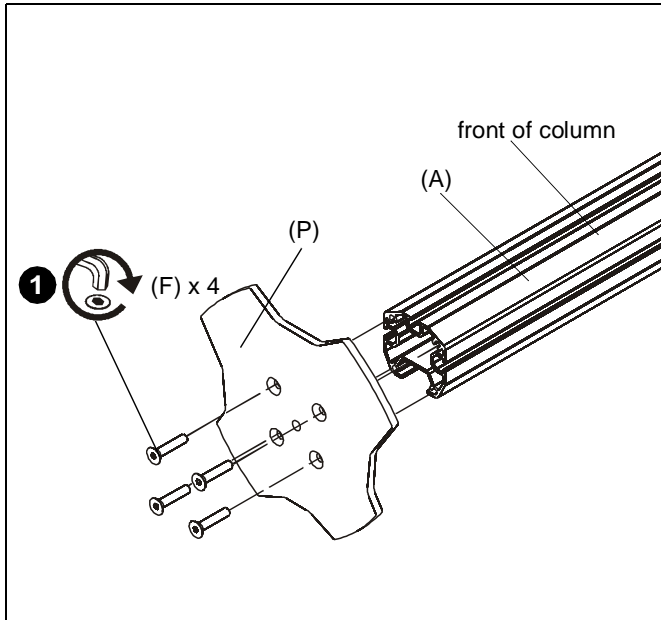

Figure 5
1. Use four 1/4-20 x 1 1/4" flat head cap screws (F) to secure grommet plate (P) to array assembly (A). Make sure longer legs of grommet plate are aligned with the front of column. (See Figure 5)